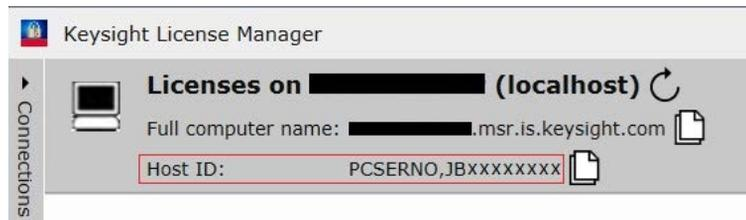

Figure 4 Viewing the Host ID information in KLM 5
- 2 Copy the Host ID that appears in the top pane of the application (Figure 4). Note that x indicates numeric values.